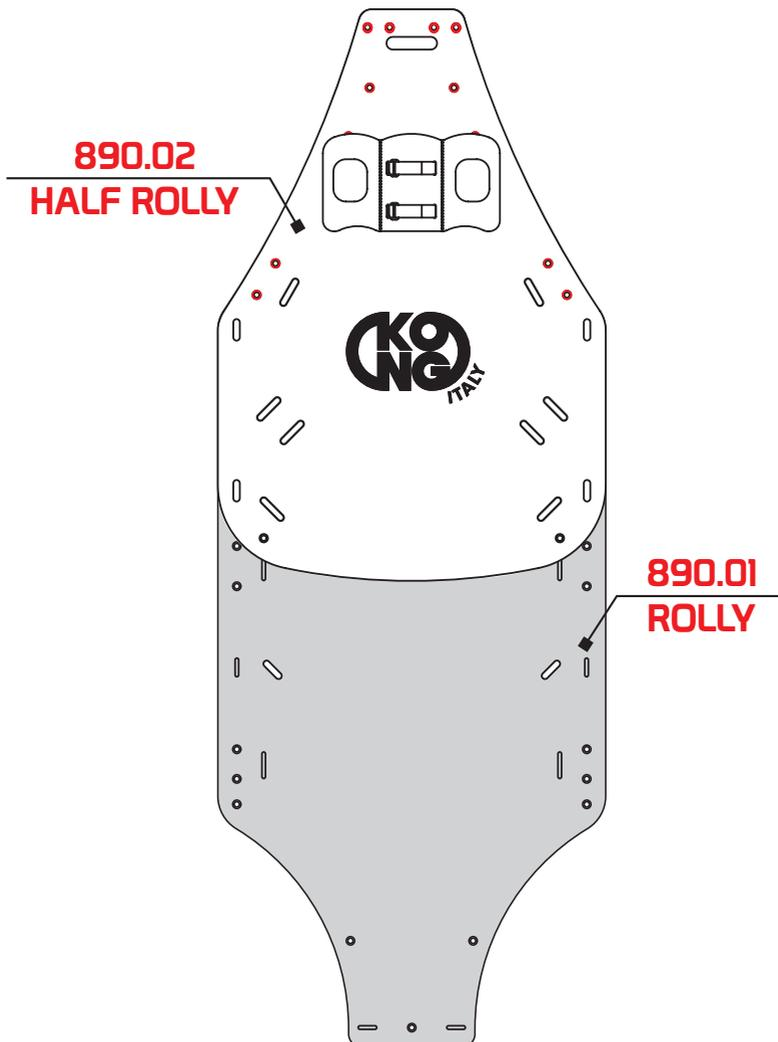
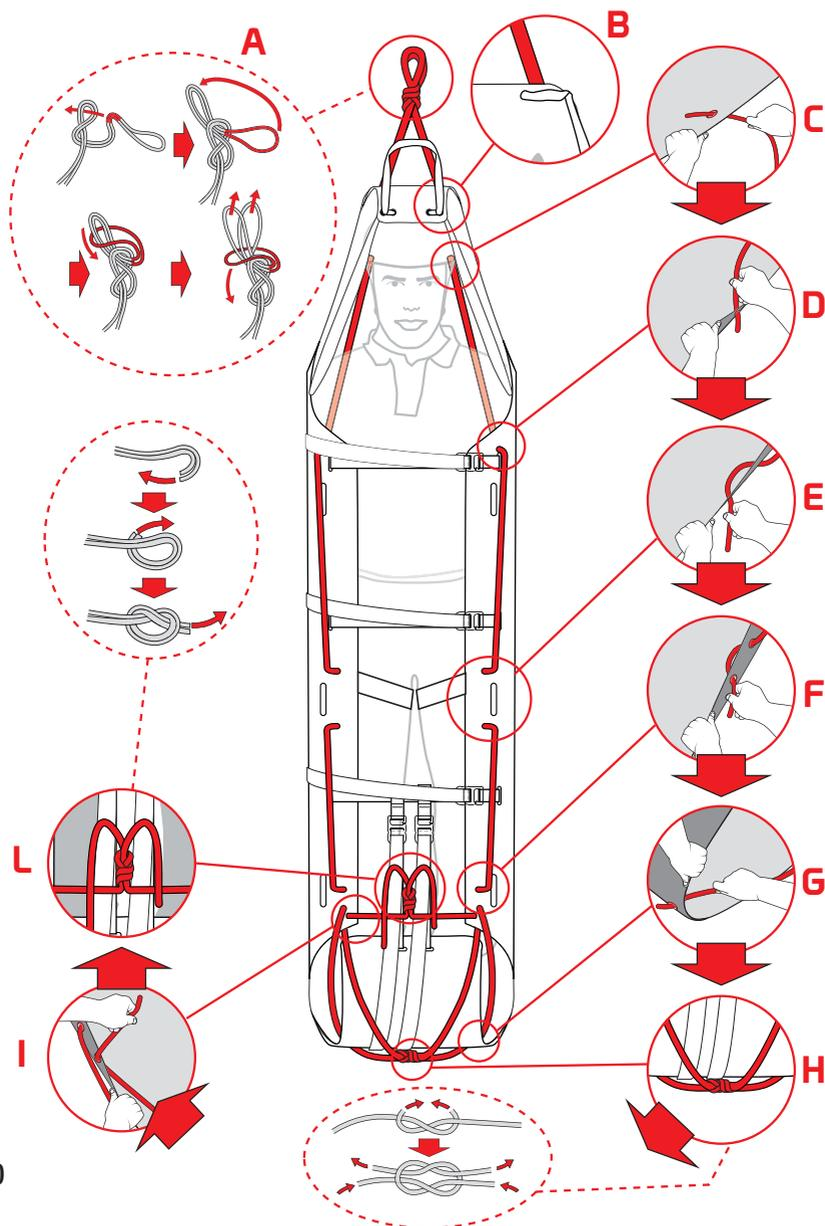

Fig.19
Fig.20
- b) Position the “**HALF ROLLY**” with the immobilised patient on top, and make sure that the holes are aligned (fig. 19), and then insert the rope (M) - fig. 20.